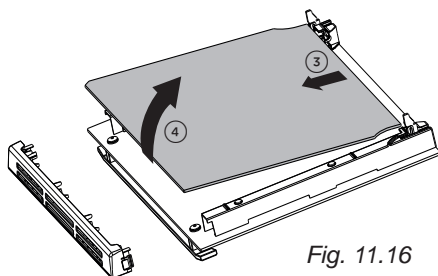

Fig. 11.16
- Gently lift and pull out the inner pane of glass by releasing it from the bottom retainers. Do not angle the pane too much as you may damage the glass (fig. 11.16).